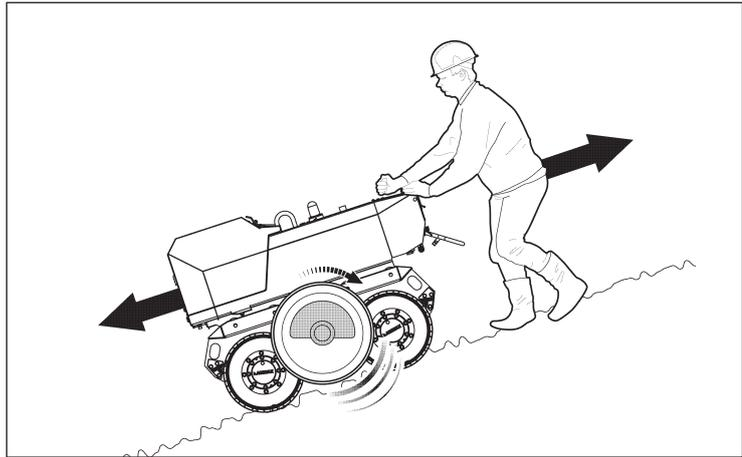

Fig. MB3: Compacting an embankment
- ➔ Switch the vibration function to backward (Fig. MB2): The flyweight shaft will rotate against the slope (Fig. MB3)